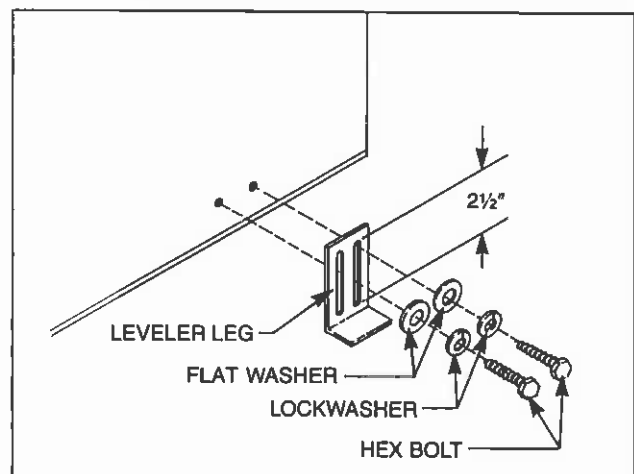

Fig. 4. Leveler leg attachment.
- B. Attach leg levelers to the lower rear sides with 2 hex head bolts, 2 flat washers and 2 lock washers each. (See Fig. 4). Slide leg levelers to full upward position and tighten bolts.